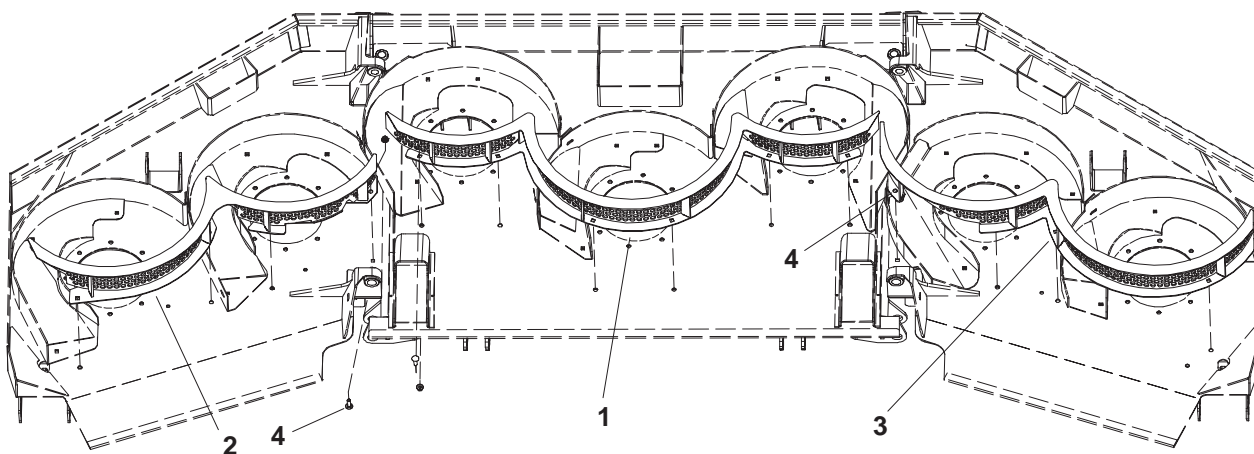

Figure 1
3. While aligning the holes in the center deck mulching screen with the existing holes in the deck, position the center deck mulching screen into the deck as shown in figure 1.
4. Using carriage bolts and nuts, mount the center deck mulching screen to the deck as shown in figure 1.
8. Secure the mulching screen to the deck with (6) carriage bolts and flange nuts. The carriage bolts are to be installed from the bottom of the deck. Torque to 105 in-lb.
12. While aligning the holes in the wing deck mulching screen with the existing holes in the deck, position the wing deck mulching screen into the deck as shown in figure 1.